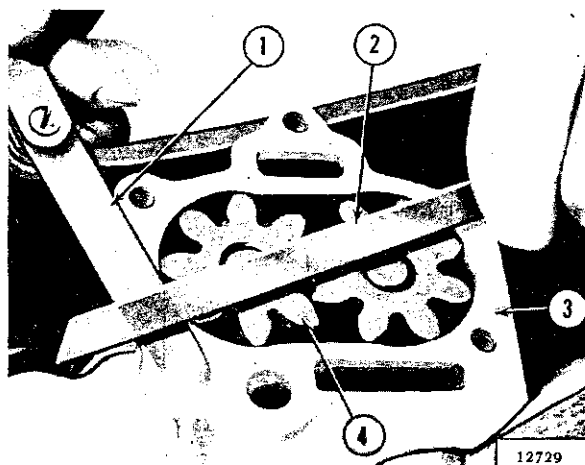

FIG. D1-30—CHECKING OIL PUMP GEAR END CLEARANCE
- c. Install oil pump gears in oil pump cavity of timing gear cover. With a straightedge and feeler gauge, check gear and clearance. Refer to Fig. D1-30. Clearance should be between .0023" [0,0584 mm.] and .0058" [0,1358 mm.]. If it is lower than .0018" [0,0457 mm.], inspect thrust surfaces of cover which touch gears for wear.